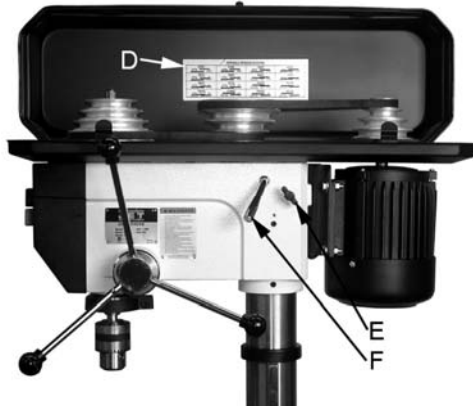

Figure 11
A spindle speed and pulley/belt arrangement chart is found on the inside of the pulley cover (D, Fig. 11). The chart is also shown in Figure 12. Refer to this chart whenever changing speeds.
2. Loosen two bar knobs (E, Fig. 11) found on each side of the head assembly.
3. Rotate the tension adjuster clockwise (F, Fig. 11) to bring the motor base as close to the head as possible.
5. Rotate the tension adjuster counterclockwise (F, Fig. 11) to tension the belts.
- Tighten two bar knobs (E, Fig. 11). Belts are properly tensioned when finger and thumb pressure midway between the two pulleys causes approximately  $\frac{1}{2}$ " deflection.